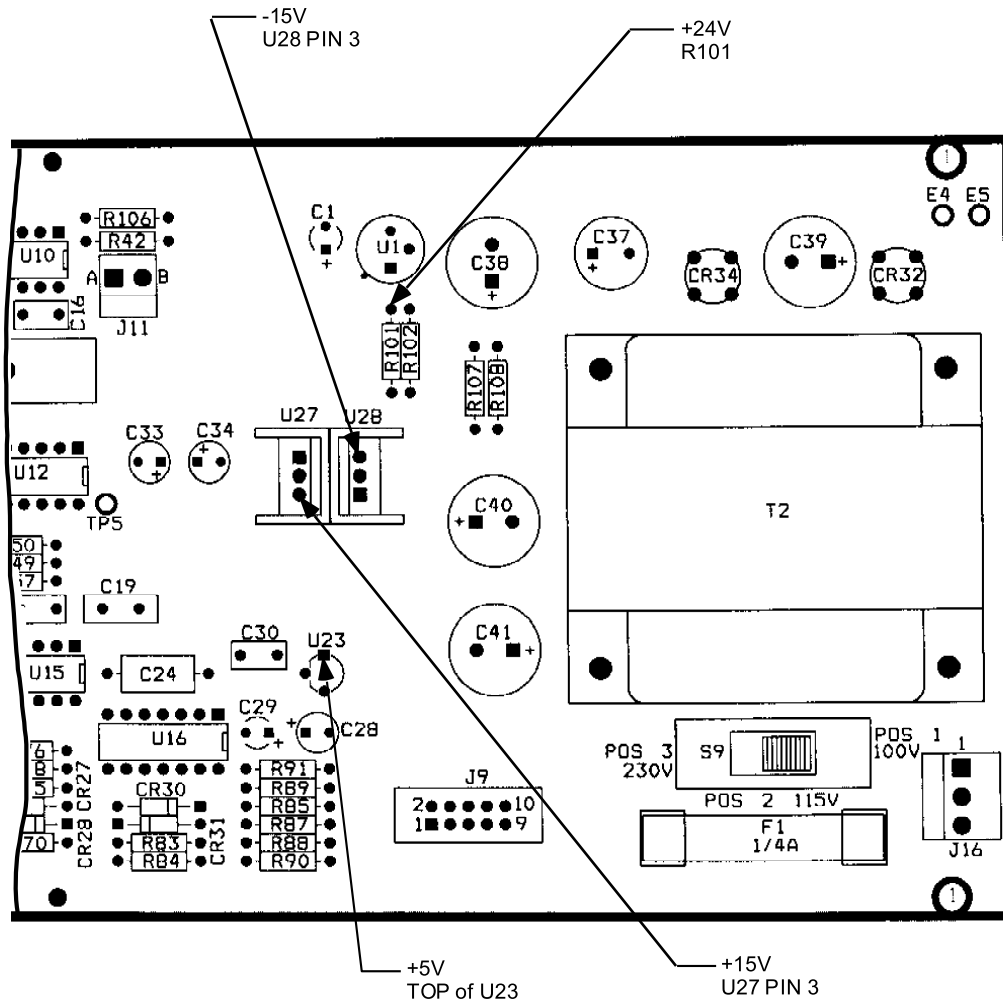

FIGURE 5-4: POWER SUPPLY TEST POINTS
- C. Insure the LINE INPUT SWITCH (S9), located on the main circuit board, is set to proper line voltage. (The unit is factory set for 110Vac). Apply power and check the regulated power supplies for the proper voltages (see Figure 5-4). This unit contains one ± 15 Volt supply: